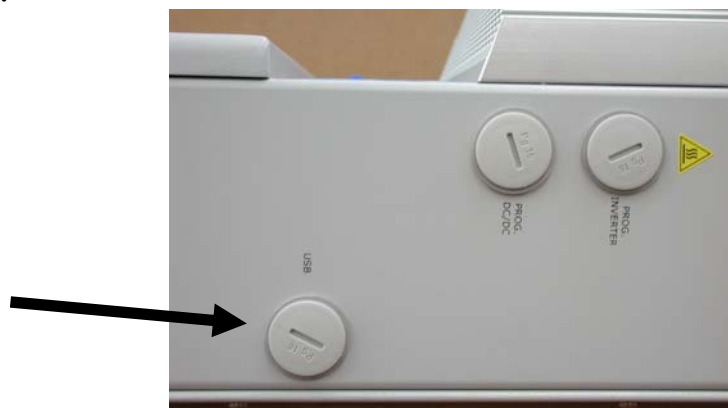

Fig.17 - USB port
- Data transmission via USB cable. This type of connection is typically used when monitoring a single inverter and for maintenance purposes. To connect the USB cable, remove the waterproof plug at the bottom end of the inverter right wall (Fig.17).